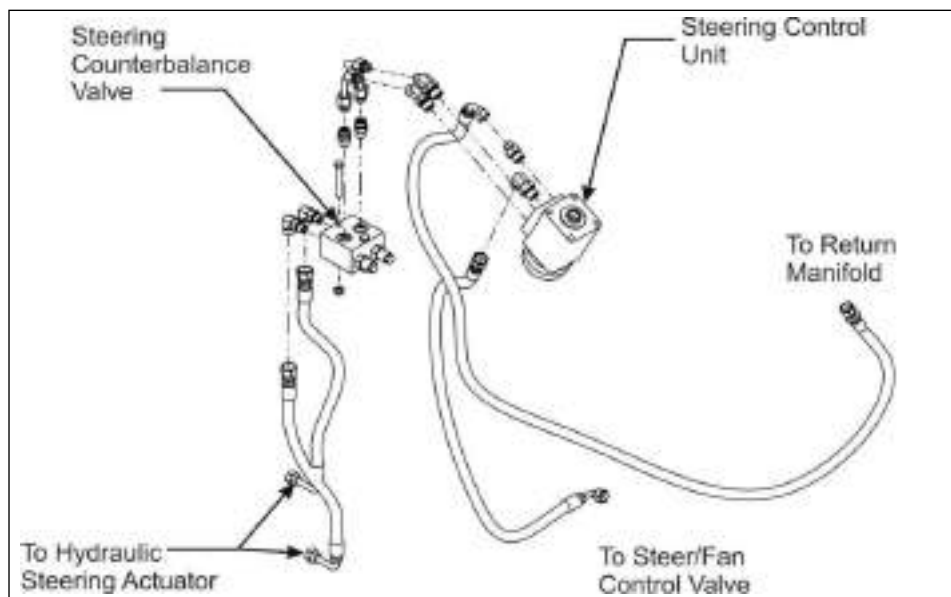

Figure 3-21: Steering Hydraulic Lines
- Tag the port locations of each hydraulic line and fitting, then disconnect the four lines from the unit. **See Figure 3-21.**